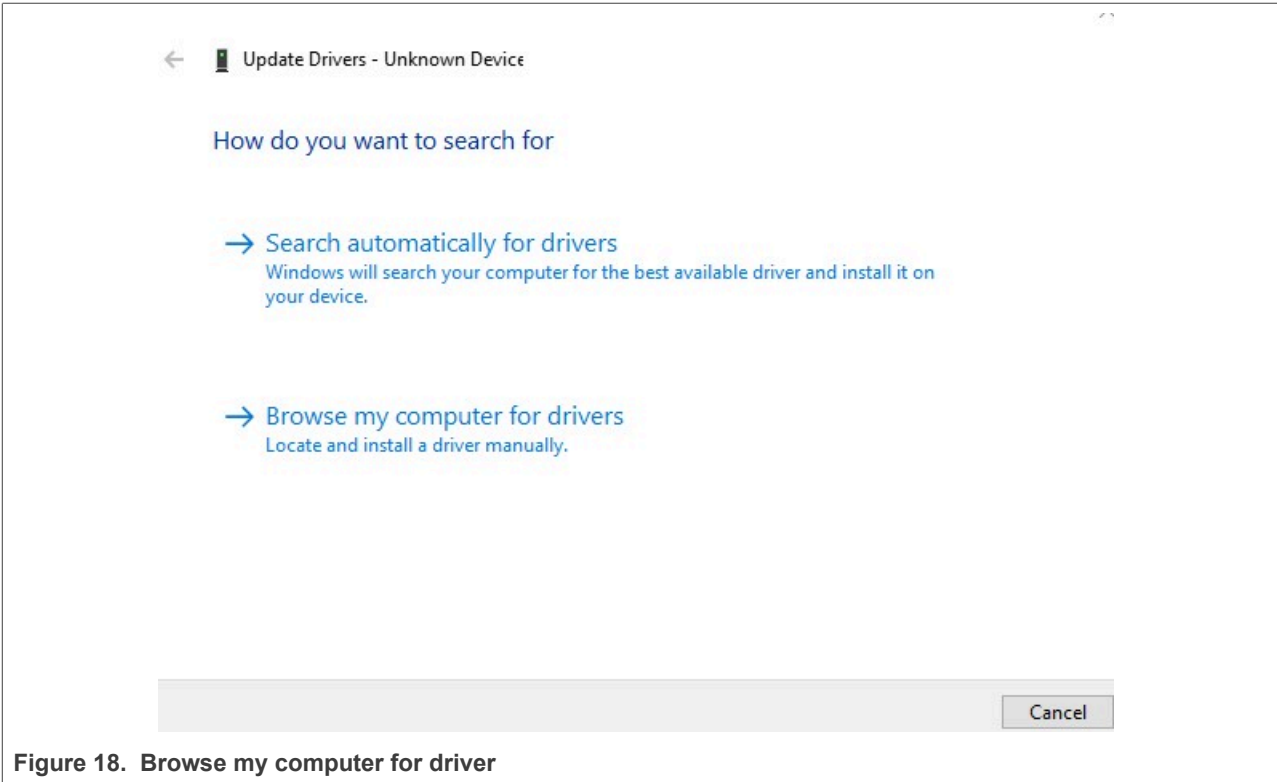

Figure 18. Browse my computer for driver
2. "Browse my computer for drivers" (see Figure 18).